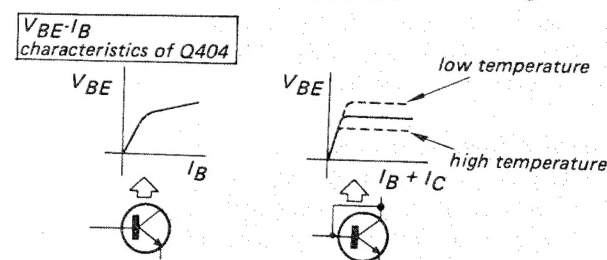

Fig. 10
- D401, Q403, Q404 and D402 form a thermally-compensated constant voltage circuit, which operates as follows (the voltages referred to here are relative to the B- voltage): D402 (EQB01-05) is a 5V zener diode which maintains the emitter of Q404 at +5V level. To obtain a flat base voltage (VBE) from the collector of Q404, the base and collector are connected as shown in Fig. 10. The characteristics referring to this connection are also shown in Fig. 10. When the value of VBE reaches the "shoulder" of the curve, it suddenly becomes constant, and subsequently varies only with changes of temperature. Any temperature-related variations in VBE of Q404 are fed to Q402, but since Q402 and Q404 are identical transistors, these variations are automatically compensated for by the other transistor. Hence, Q402 and Q404 serve to compensate for any voltage variations caused by changes of temperature.